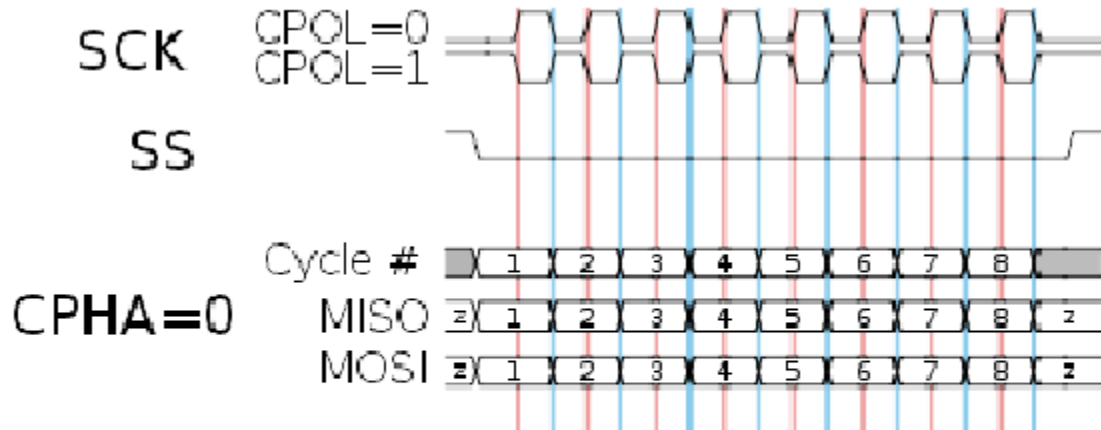

Figure 2-1. SPI Mode 0 Timing Diagram.
- √ Uses SPI mode 0 (CPOL=0, CPHA=0) as Figure 2-1.